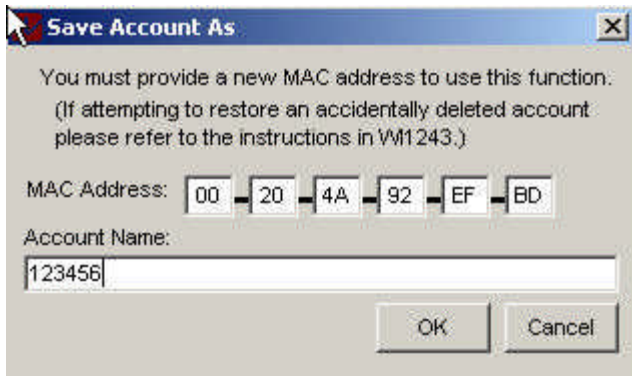

Figure A8.
19) You will be prompted to enter a **New Account Name**. In this example we use “123456” as the new account name. Refer to figure A8.